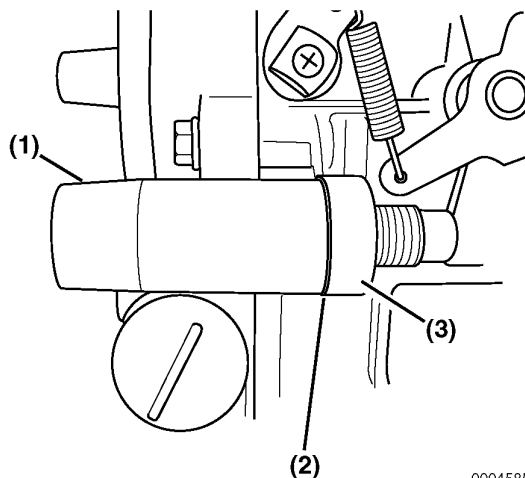

Figure 9-28
14. Install the new fuel limiter tamper resistant cover (**Figure 9-28, (1)**). Do not reuse the old cover. Use a soft-faced hammer to "tap" the tamper-resistant cover into place. When properly installed, there should not be a gap (**Figure 9-28, (2)**) between the tamper-resistant cover and the cylinder block mounting boss (**Figure 9-28, (3)**).